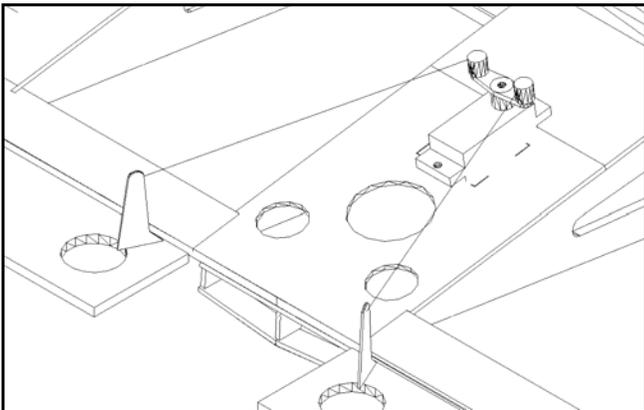

Figure 21
7. The aileron servo and linkage is mounted as shown in Fig. 21.